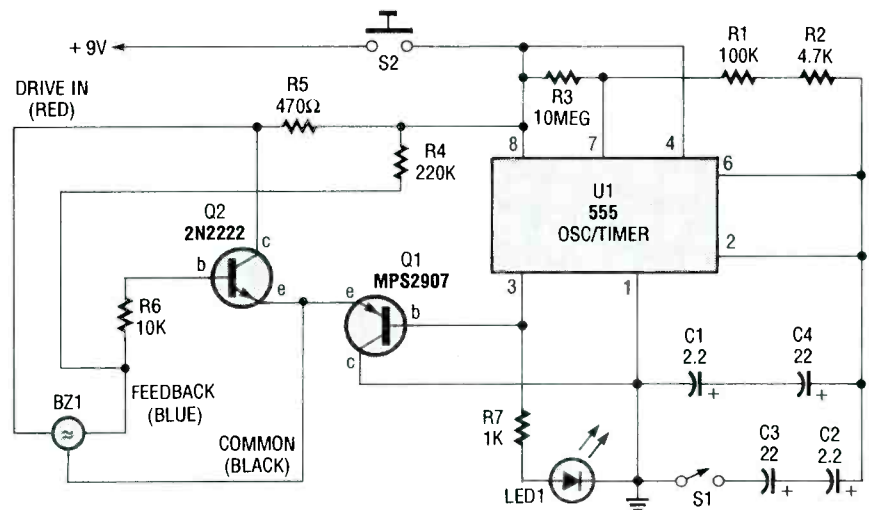

Fig. 1. The Electronic Darkroom Timer is built around a 555 oscillator/timer, a pair of general-purpose transistors, an LED, and a buzzer.
Frequency Conversion. Figure 1 shows the schematic diagram of the HPS Converter circuit. The NE602 chip, U1, contains oscillator and mixer stages. The mixer combines the oscillator signal with the input RF (*Radio-Frequency*) signal to produce signals whose frequencies are the sum and difference of the input frequencies. For example, an 8.5-MHz oscillator and a 10-MHz incoming signal will give output signals at 18.5 MHz ($10 + 8.5$) and 1.5 MHz ($10 - 8.5$). Re-
Fig. 1. The NE602 integrated-circuit chip amplifies the output signal by ten times. Interconnecting leads should be kept short and layout should appear neat for satisfactory operation.
About the Circuit. Figure 1 shows the schematic diagram of the Electronic Darkroom Timer. The circuit is built around a 555 oscillator/timer, a pair of general-purpose transistors, a buzzer, and an LED. The 555 (U1) is configured as an astable multivibrator (free-running oscillator). The frequency of the oscillator is determined by the values of resistors R1–R3 and capacitors C1–C4.
Figure 1 illustrates the bands used to identify the resistance values of low-wattage resistors. Both a normal (A) and a high-precision resistor (B) are shown. The numerical values corresponding to the various colors you can find on a resistor are given in Table 1.
Fig. 1. Here we show the arrangement of bands on both a regular (A) and a high-precision (B) resistor body. Notice the precision resistor has more digits to specify its value more accurately.